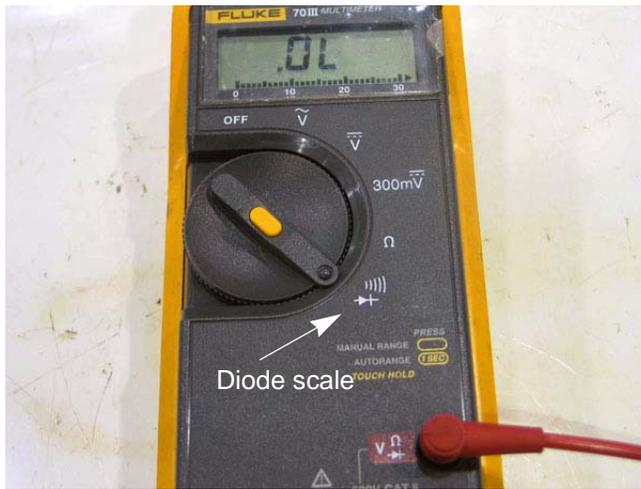

Figure 7.67
2. Set the DMM to the diode or Ω scale. See Figure 7.67.